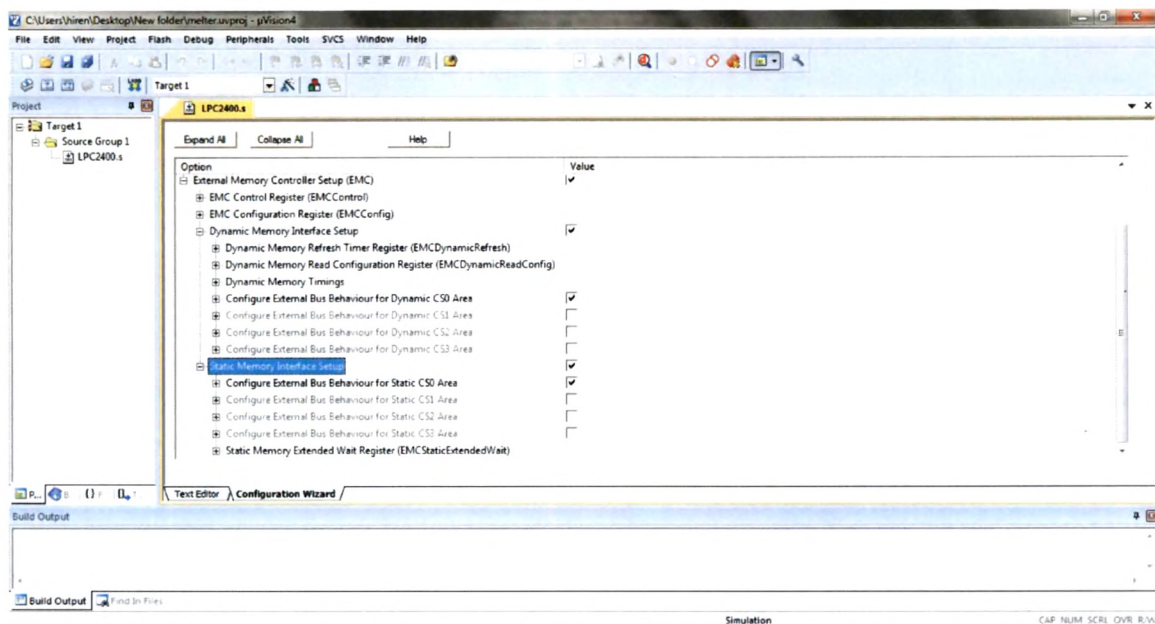

Figure A-4 Configuration wizard
- 6. In Project window double click on LPC2400.S and configure external dynamic & static memory interface by entering into Configuration Wizard as shown in Figure A-4.